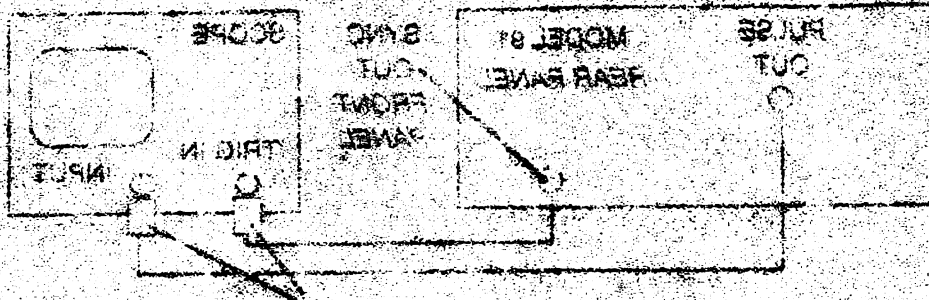

FIGURE 2-3. Pulse Output Check
1. Connect the Model 91 to the scope as shown in Figure 2-3.